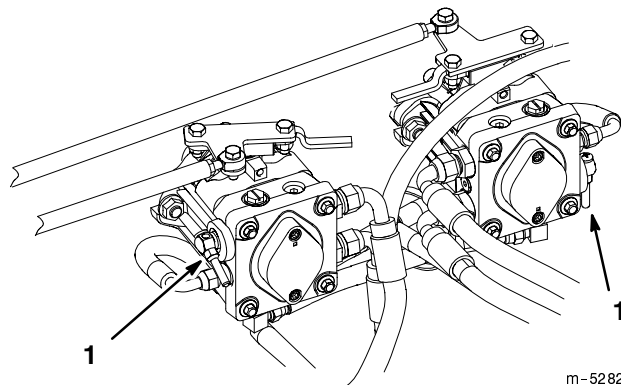

Figure 23
2. Rotate pump by-pass valves counterclockwise 2 turns. This allows hydraulic fluid to by-pass the pump enabling the wheels to turn freely (Fig. 23).
1. Turn the by-pass valves clockwise until they are tight. Do not over tighten (Fig. 23).